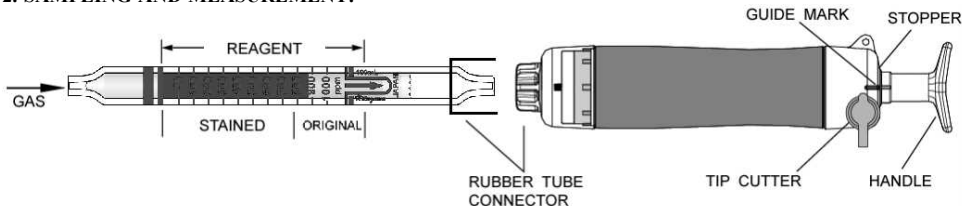

Fig.1
- ② Insert the detector tube into the aspirating pump securely as shown in Fig.1. (Arrow mark shall point to the pump.)
- ③ Align the guide marks on the shaft and stopper of the aspirating pump.
- ④ Pull the pump handle with a full stroke until it locks and wait for 1.5 minutes or until the completion of sampling is confirmed with the flow indicator of the pump. (See descriptions about the flow indicator in the instruction manual of the pump.)
- ⑤ On completion of sampling, read the scale at the maximum point of the stained layer.